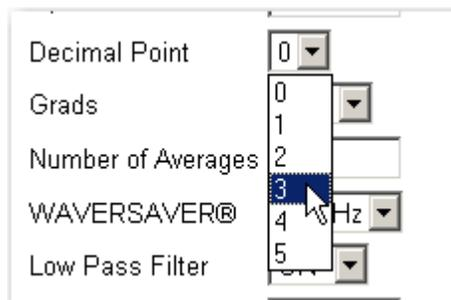

FIG. 193 INSTRUMENT SETUP/SETTING GRADUATION SIZE
Step 1. Click on the Grads pull down menu. (See Fig. 193)